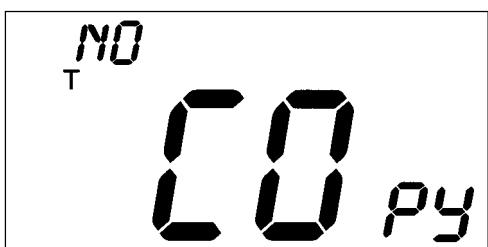

Fig. 7 — Copy Command Display
- The Copy command can be used to copy the previous day's schedule if the schedules are the same. The copy command becomes available after all the occupied periods are programmed in a day. Use the UP ARROW to change the copy command to YES. Use the DOWNARROW to change the copy command to NO. Press the Mode button when the choice has been made. See Fig. 7.